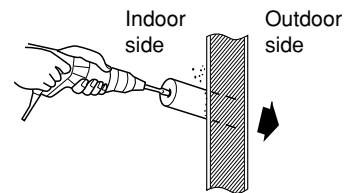

Fig. 3-76
- (8) If the tubing and wiring are to go towards the rear of the unit, make holes in the wall. (Fig. 3-76)